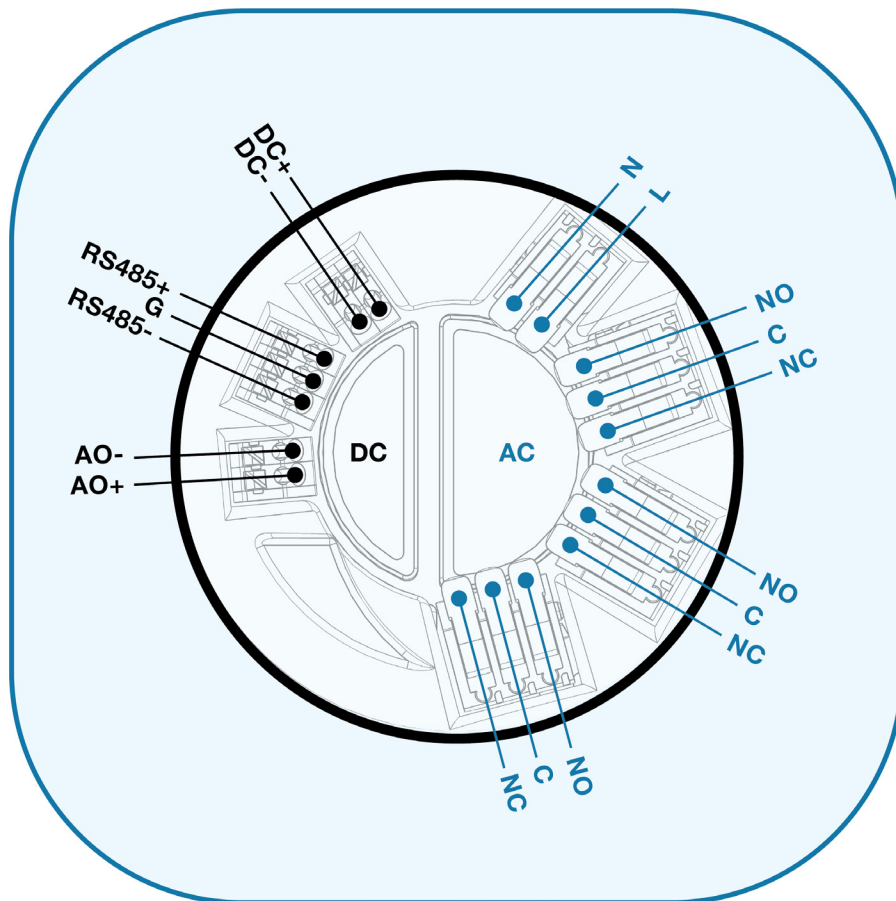

Figure 2: HY-GUARD Wiring
- The smaller hole on the opposite side is for DC wiring only (see Figure 2).
2. Connect wires to the appropriate connector (see Figure 2).
NOTE: Ensure the device wiring matches the diagram provided in Figure 2. If you are uncertain if the device is functioning properly, use the Communication Test Mode (2.6) to validate the system.